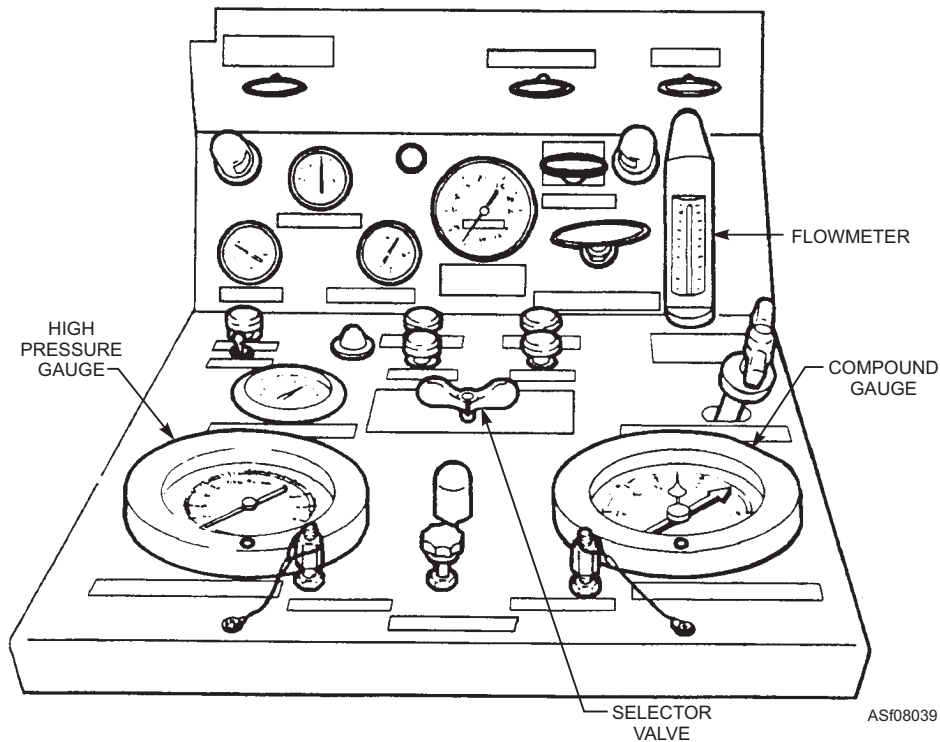

Figure 8-39.—A/M27T-5 control panel, controls, instruments, and gauges.
Pressure gauges are designed to indicate different ranges of pressure in pounds per square inch. In support equipment, these gauges may range from 0 to 100 psi, or up to 6,000 psi or greater. Figure 8-39 shows
Compound gauges in hydraulic systems are used to indicate pressure or suction in the system. They normally indicate vacuum from 0 to 30 inches of mercury (in.Hg) and pressure from 0 to 300 psi. The compound gauge shown in figure 8-39 (2) is used in conjunction with the directional valves (3) to indicate back pressure or suction in the return line, the inlet to the low-pressure pump, or the inlet to the high-pressure pump.
Flowmeters are used in hydraulic power supplies and component test benches to indicate the rate of flow of fluids, usually in gallons per minute (fig. 8-39). One use of a flowmeter, for example, is in testing the output of pumps. The most common type of flowmeter used is the rotameter, which is described in *Fluid Power*, NAVEDTRA 14105.